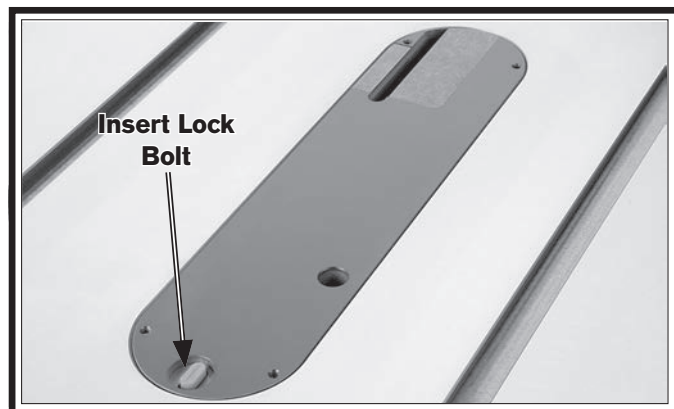

Figure 35. Insert knob unlocked.
1. Turn insert lock bolt so it is parallel to inner slot, as shown in **Figure 35**, then remove insert.